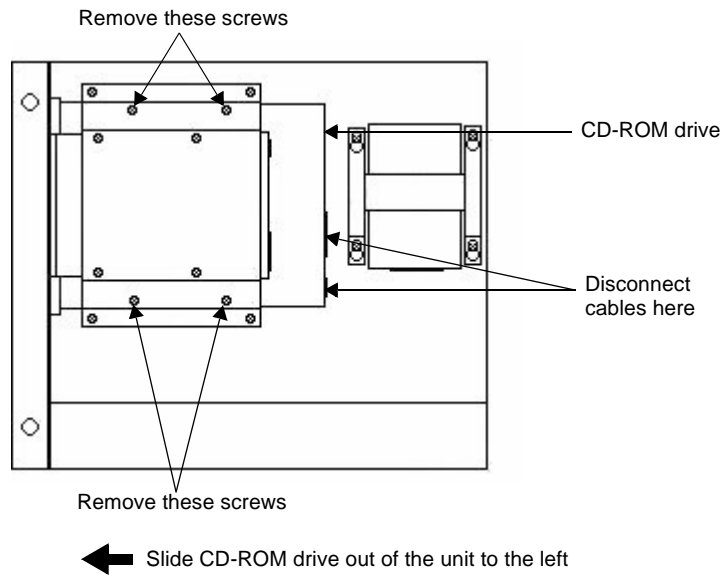

Figure 5: Removing a CD-ROM Drive
1. Locate the CD-ROM drive in the upper left side of the maintenance compartment, behind the floppy drive, as shown in Figure 5 on page 5.